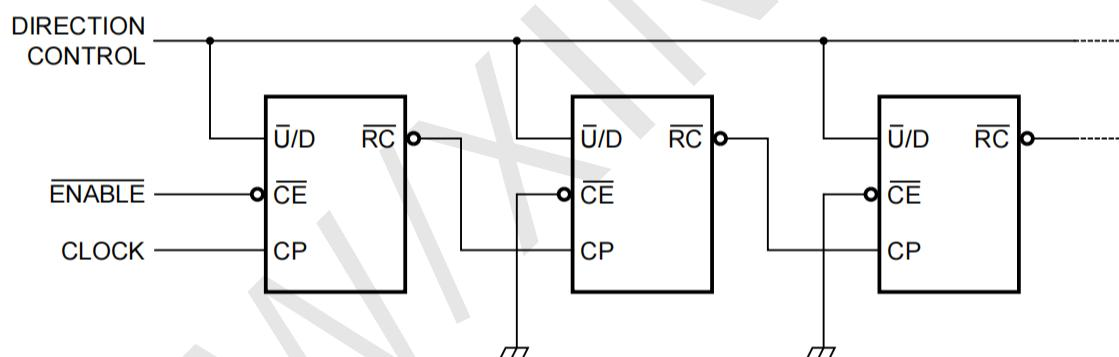
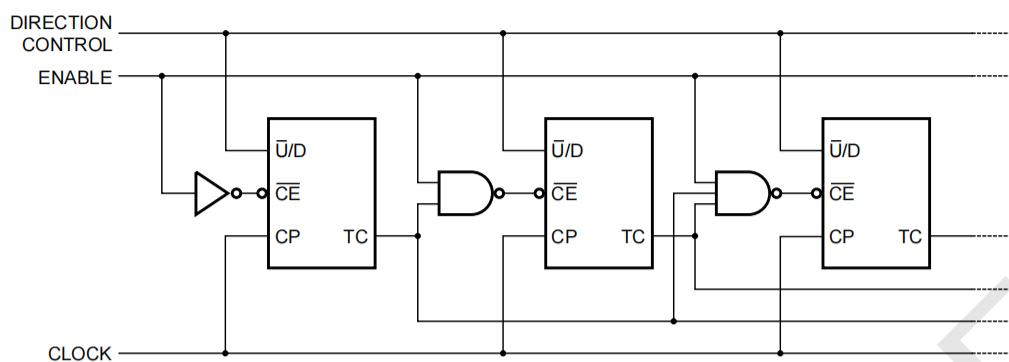

Figure 5.N-stage ripple counter using ripple clock
Figure 7. Synchronous n-stage counter with parallel gated carry/borrow
Counting is inhibited by a HIGH level on the count enable ( $\bar{CE}$ ) input. When  $\bar{CE}$  is LOW internal state changes are initiated synchronously by the LOW-to-HIGH transition of the clock input. The up/down ( $\bar{U}/\bar{D}$ ) input signal determines the direction of counting as indicated in the function table. The  $\bar{CE}$  input may go LOW when the clock is in either state, however, the LOW-to-HIGH  $\bar{CE}$  transition must occur only when the clock is HIGH. Also, the  $\bar{U}/\bar{D}$  input should be changed only when either  $CE$  or  $CP$  is HIGH. Overflow/underflow indications are provided by two types of outputs, the terminal count (TC) and ripple clock ( $\bar{RC}$ ). The TC output is normally LOW and goes HIGH when a circuit reaches zero in the count-down mode or reaches "9" in the count-up-mode. The TC output will remain HIGH until a state change occurs, either by counting or presetting, or until  $\bar{U}/\bar{D}$  is changed. Do not use the TC output as a clock signal because it is subject to decoding spikes. The TC signal is used internally to enable the  $\bar{RC}$  output. When TC is HIGH and  $\bar{CE}$  is LOW, the  $\bar{RC}$  output follows the clock pulse (CP). This feature simplifies the design of multistage counters as shown in Figure 5 and 6.
In Figure 5, each  $\bar{RC}$  output is used as the clock input to the next higher stage. It is only necessary to inhibit the first stage to prevent counting in all stages, since a HIGH On  $CE$  inhibits the  $\bar{RC}$  output pulse as indicated in the function table. The timing skew between state changes in the first and last stages is represented by the cumulative delay of the clock as it ripples through the preceding stages. This can be a disadvantage of this configuration in some applications.
In Figure 7, the configuration shown avoids ripple delays and their associated restrictions. Combining the TC signals from all the preceding stages forms the  $\bar{CE}$  input for a given stage. An enable must be included in each carry gate in order to inhibit counting. The TC output of a given stage is not affected by its own  $\bar{CE}$  signal therefore the simple inhibit scheme of Figure 5 and 6 does not apply.